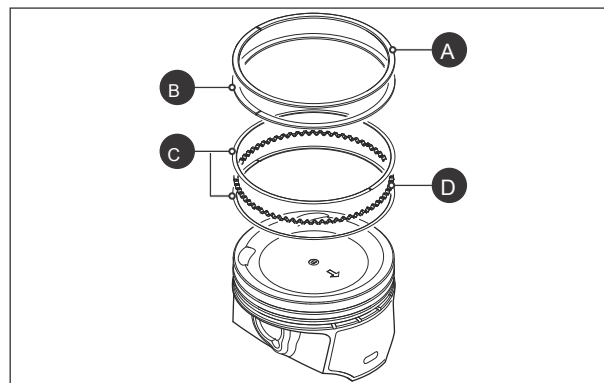

Fig. 3.88
- Remove the ring piston top (1st) (A), piston ring 2nd (B) and oil rings (C) along with separator oil ring (D). (Fig. 3.88)